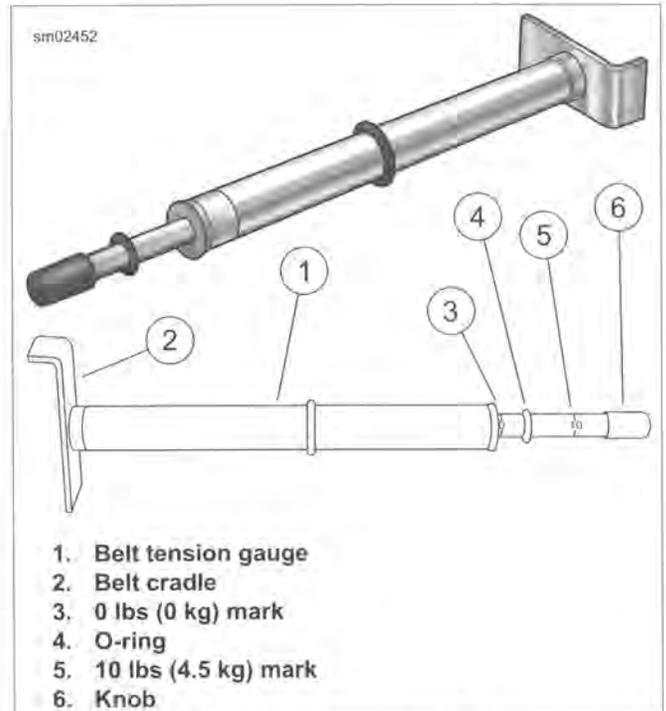

Figure 1-24. Belt Tension Gauge
2. See Figure 1-24. Obtain H-D BELT TENSION GAUGE (Part No. HD-35381-A).